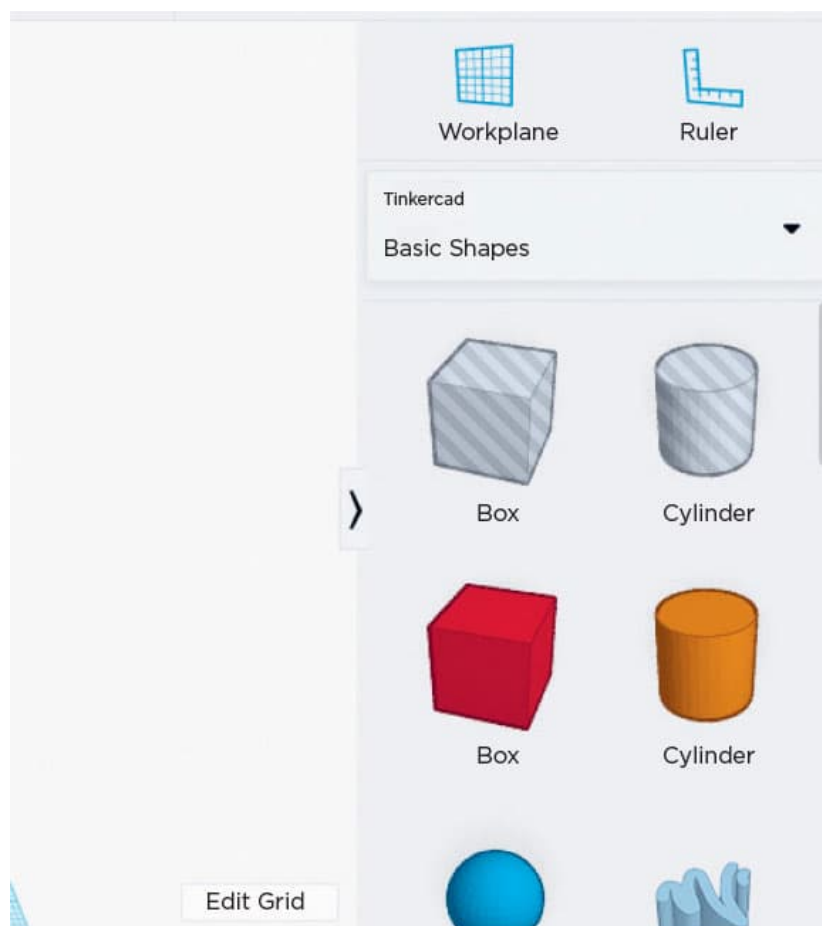

FIG. 5: Precreated shapes and tools. The **Ruler** is also along the right side.
- The right side of the workplane has a variety of precreated tools that can be used to create various shapes. The drop-down menu can be used to access even more shapes than the basic shapes. There are also other tools, such as the **Ruler** on the right side (fig. 5).